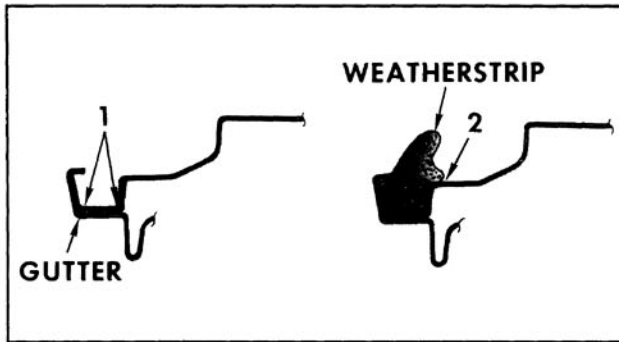

Fig. 16-463 Rear Compartment Weatherstrip
2. Apply (brush) a continuous coat of neoprene weatherstrip adhesive along bottom, inner and outer walls of gutter as indicated at "1" in Fig. 16-463 around complete length of gutter.
5. Using a pressure type applicator, apply neoprene weatherstrip adhesive between gutter and weatherstrip as indicated at "2" in Fig. 16-463 completely around gutter to insure a watertight seal.